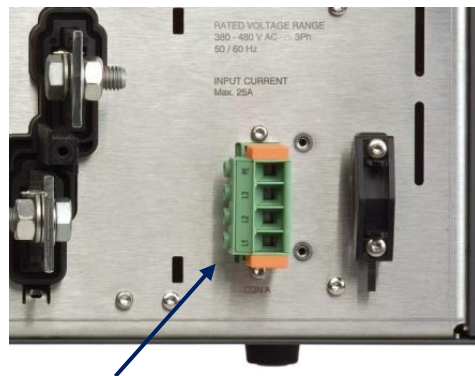

Figure 7.1: Insert the included 4-pole header in CON A for the connection of the AC power / Mains.
- Use the included 4-pole header with the markings L1, L2, L3 and PE for connecting the wire to the unit, see Figure 7.1. The mounting torque for the header terminals is 0.6 Nm.